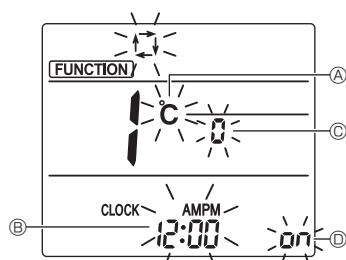

Fig. 6-11
- Press the Ⓛ button ④ to change the function No.
- Check that function No. "1" is displayed, and then press the Ⓛ SET button ③. The display setting screen will be displayed. (Fig. 6-11)